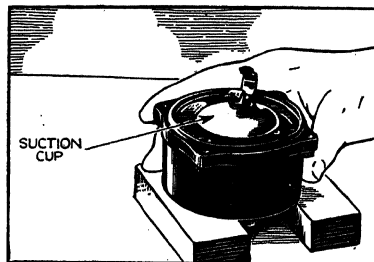

Fig. 4.—Suction cup for removing glass.
**Repair and Adjustment.**—To take apart, remove the outer snap ring, put a small screw driver or knife blade under one end of the ring, and lift it out. Use a suction cup to remove the glass. If the glass is tight, tap gently around the edge of the case (Fig. 4).